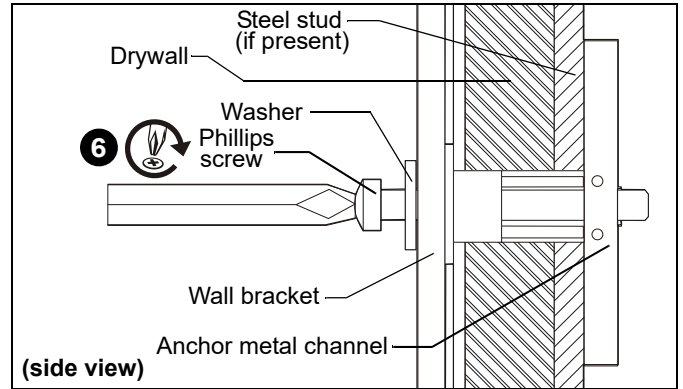

Figure 32
6. Insert 1/4-20 x 1-3/4" Phillips pan head screw through 1/4" washer, corresponding mounting hole in wall bracket and into anchor, and tighten until flush against wall bracket. **DO NOT over tighten!** (See Figure 32)